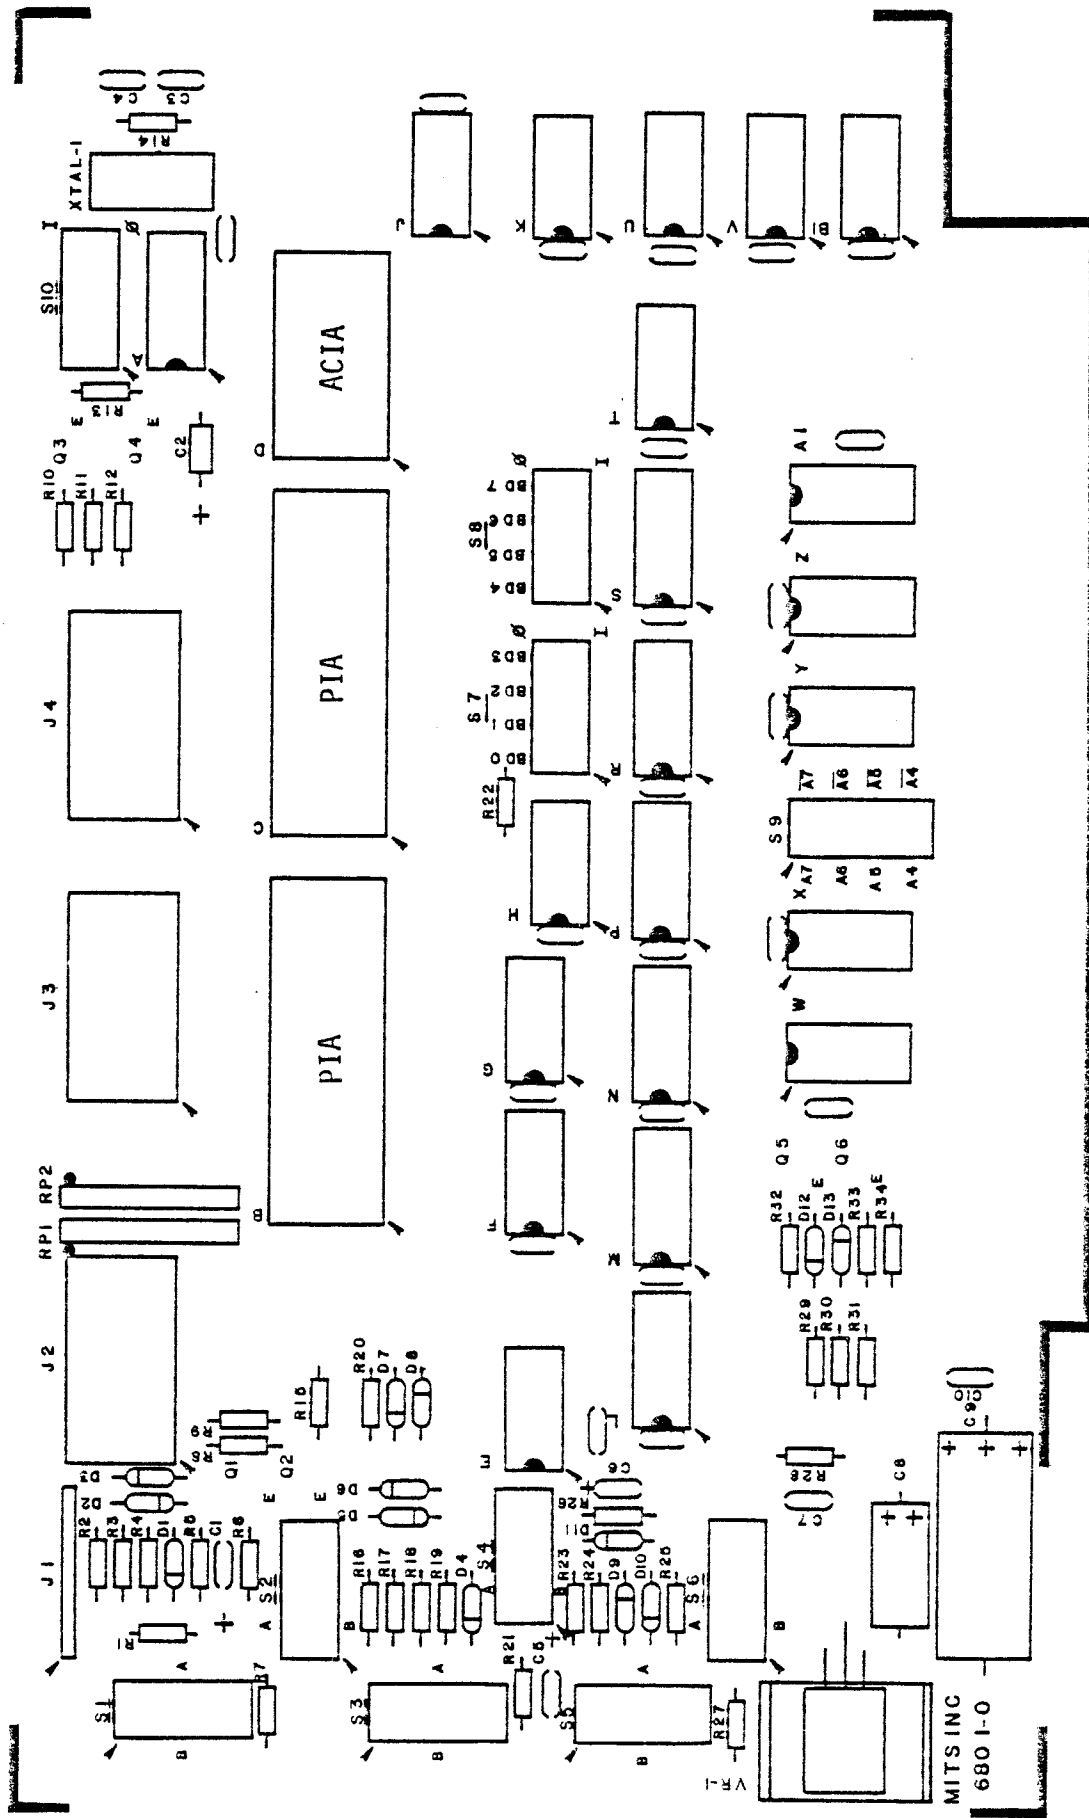

Figure 5-A. 680b Universal I/O Board Silkscreen Diagram
- a. For proper orientation, insure that pin 1 of the cable connector is placed over the pin 1 position of the board socket. Refer to Figure 5-A, Silkscreen Diagram (page 5-2), for pin positions of sockets J1, J3, and J4.
Using the silkscreen diagram (Figure 5-A, page 5-2) as a guide, check the following: